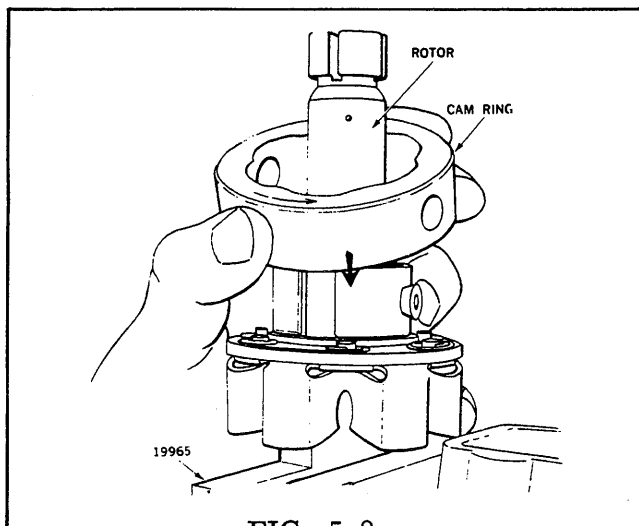

FIG. 5.8a
STEP 8 When the roller-to-roller adjustment is completed, remove the rotor assembly from the fixture, making sure that the cam rollers and shoes are not dislodged from their slots. Thoroughly rinse the rotor in clean fuel oil or calibrating oil and place the rotor shank end up on top of Fixture No. 19965. Place the cam ring on top of the rotor with the directional arrow indicating the opposite direction of pump rotation (Fig. 5.8a). This is necessary since pump rotation is always expressed as viewed from the drive end. The pump will not deliver proper fuel if the cam ring is incorrectly assembled.